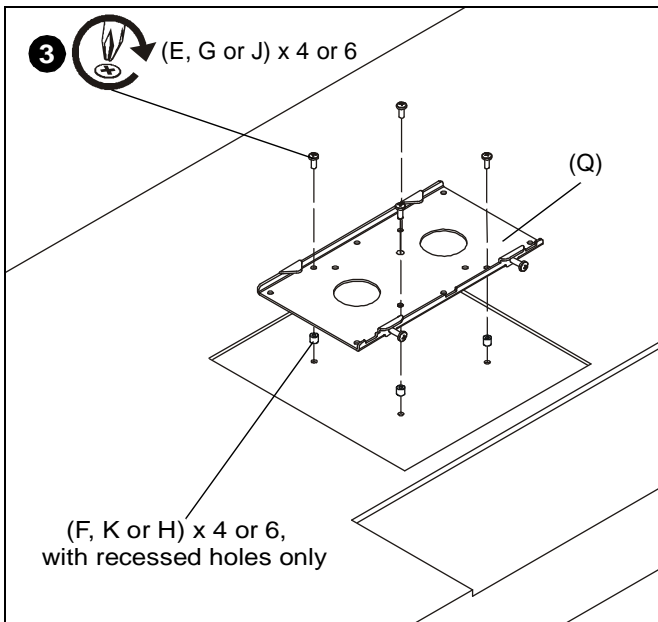

Figure 8
- Determine which size screw (E, G or J) to use to connect front plate (Q) to display. If mounting holes recessed, use spacers with longer screws and or/spacers. Use 1/8" spacers (F) with M4x12mm screws (E), 3/4" spacers (K) with M4 x 30mm screws (J) or 3/8" spacers (H) with M4 x 20mm screws (G).
- Use and selected screws (E, G or J) and spacers (F, K or H, if necessary) to secure front plate (Q) to back of display. (See Figure 8) Proceed to Step 6.